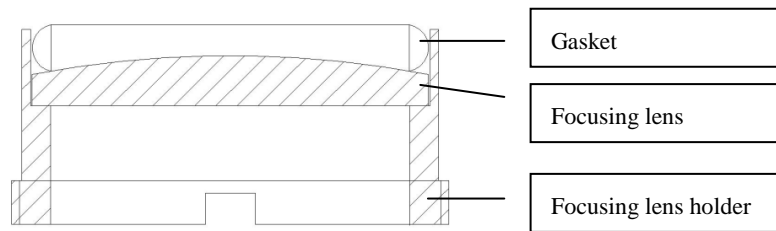

Fig.12
1. Place the lens and gasket at the lens holder in order, make the reverse side (flat surface) of lens face the lens holder and front side (convex surface) face the gasket, which is as shown in Fig.12.